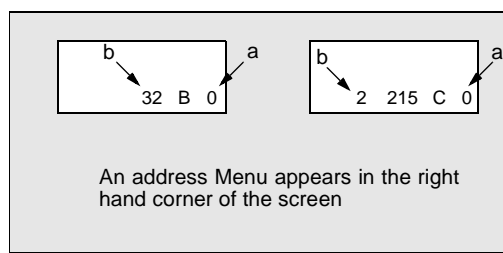

Figure 20. **Serviceman Mode Menu Adjustments.**
Note: Only the applicable settings for the Receiver serviced will be available (See a in Fig. 20).
1. Press **Channel Up/Down** on the **Remote Control** to select one of the available Service Adjustments (**a** in Fig. 20).
Note: Write Down the original value set (**b** in Fig. 20) for each address before modifying anything. It is easy to erroneously adjust the wrong item.
2. Press **Volume Up/Down** on the **Remote Control** to adjust the level of the selected Service Adjustment (**b** in Fig. 20).
1. Press Channel Up/Down on the Remote Control to select one of the available Service Adjustments (a in Fig. 20).
Note: Write Down the original value set (b in Fig. 20) for each address before modifying anything. It is easy to erroneously adjust the wrong item.
2. Press Volume Up/Down on the Remote Control to adjust the level of the selected Service Adjustment (b in Fig. 20).
1. **Press Channel Up/Down** on the **Remote Control** to select one of the available Service Adjustments (**a** in Fig. 20).
2. **Press Volume Up/Down** on the **Remote Control** to adjust the level of the selected Service Adjustment (**b** in Fig. 20).